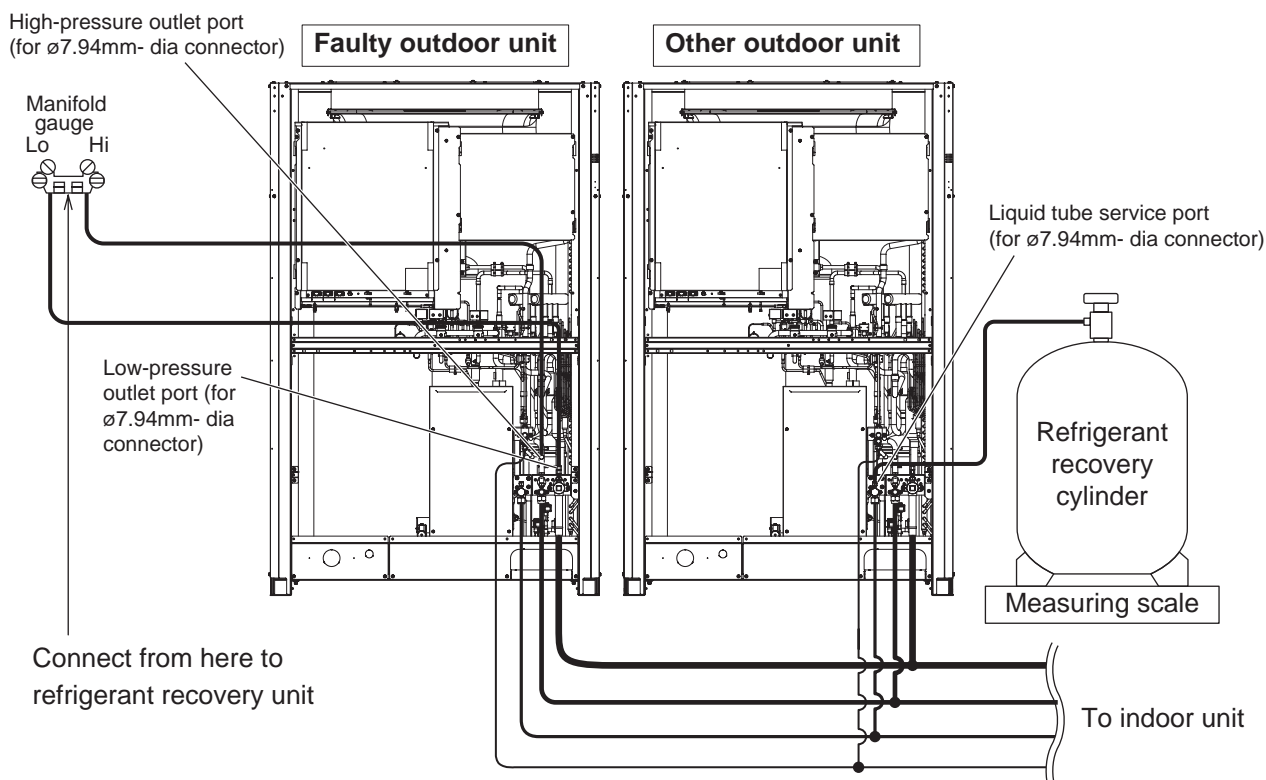

Fig. 15
- (1) See "3. Backup Operation" and perform backup operation.
- (2) Connect the manifold gauge valves at the Lo side to the low-pressure outlet port of the outdoor unit to be repaired. Also connect the refrigerant recovery cylinder to any one of the normal outdoor units at the liquid line service port (Schrader-type push-to-release valve). Perform the connection work quickly so that no air is allowed to enter. (Fig. 15)